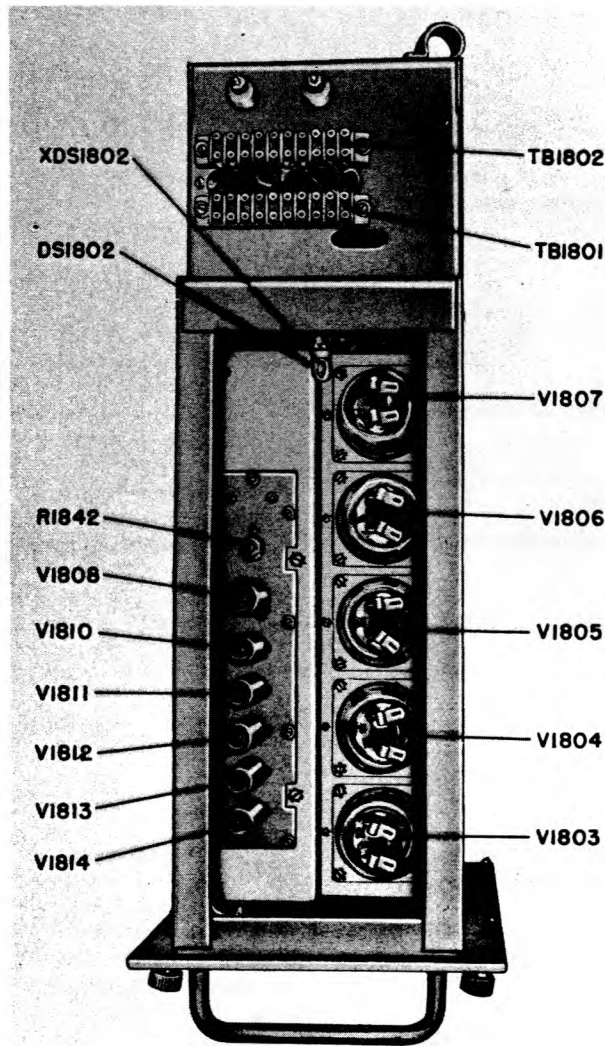

Figure 2-13. Medium Voltage Power Supply
Step 2. Medium voltage power supply adjustment potentiometer R1842 +1000V is located inside power supply drawer unit on top of chassis (figure 2-13) and